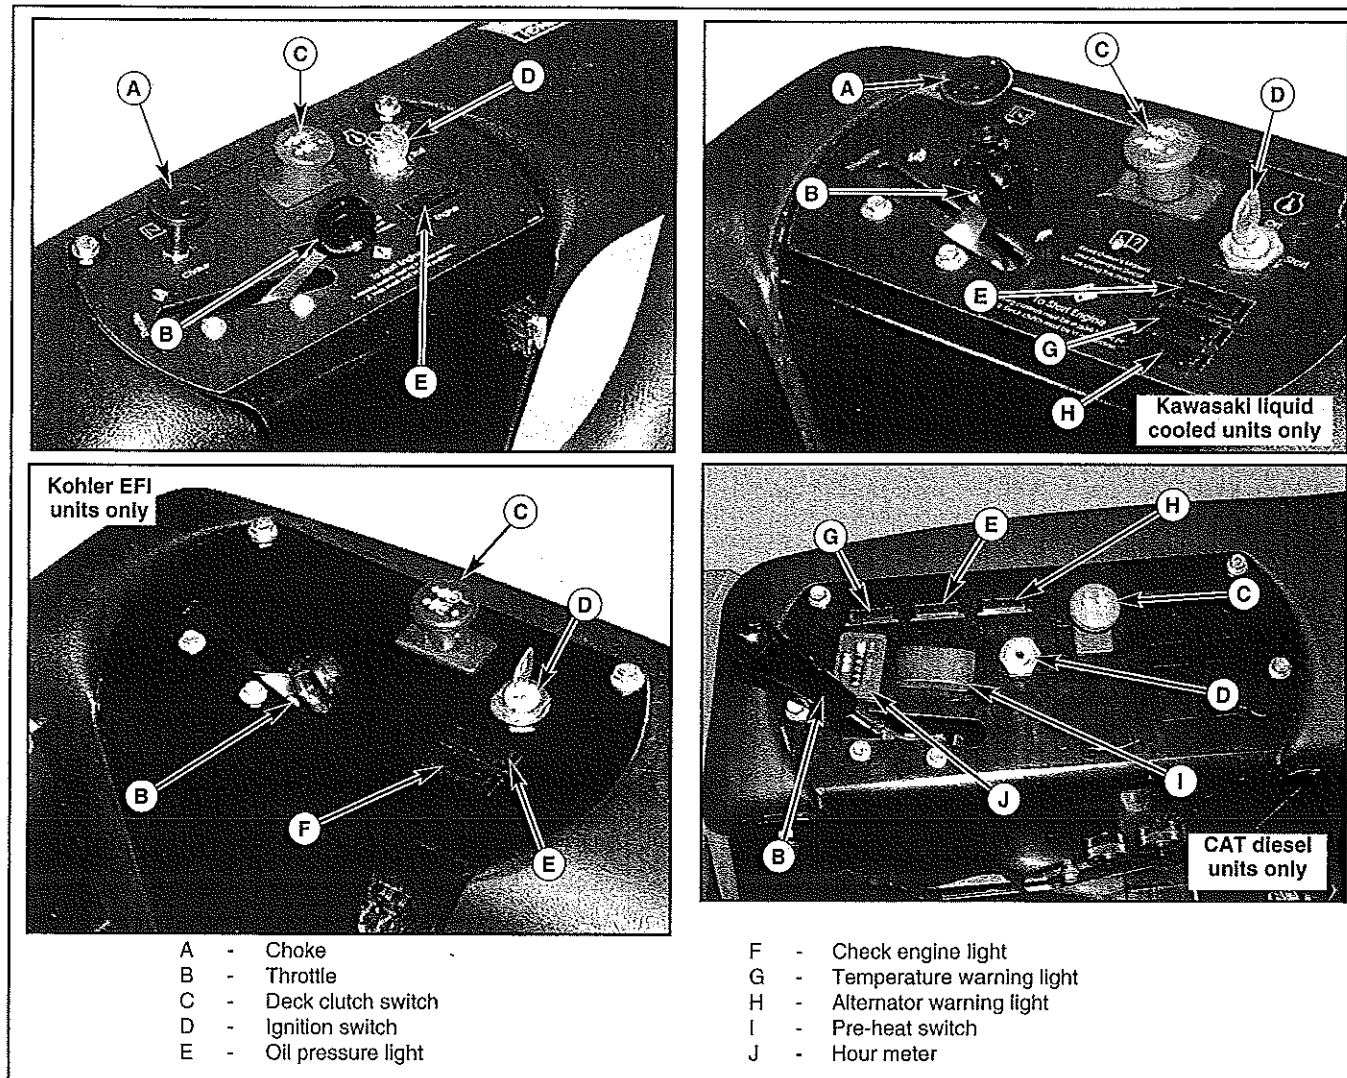

Figure 3-1
- A. Choke control (Fig. 3-1)** — a cable is linked to manually operate the engine choke. When the lever is in the down position, the choke is in the off (run) position. When the lever is pulled up, the choke is in the on (start) position. **Do not** operate the machine in the on (start) position. **NOTE:** The choke control is not used on Models 927053 & 927061.
- B. Throttle control (Fig. 3-1)** — a cable is linked to engine throttle for controlling engine speed. Move lever forward to increase engine rpm, move lever rearward to decrease engine rpm.
- C. Deck clutch switch (Fig. 3-1)** — this switch engages the deck. Pull the switch up to engage and push switch down to disengage the clutch.
- D. Ignition switch (Fig. 3-1)** — a three position switch: off, run, and start. With key inserted, rotate it clockwise to START position; release key when engine starts, and switch will automatically return to the RUN position.
- E. Oil pressure light and alarm (Fig. 3-1)** — this light comes on
- F. Check engine light (Fig. 3-1)** — refer to Kohler engine owner's manual for details.
- G. Temperature warning light and alarm (Fig. 3-1)** — this light will come on when the engine coolant temperature reaches an unsafe level during operation. If light comes on, shut down the machine as soon as possible. Never risk continued operation when light remains on; high temperatures can severely damage the engine. Never risk continued operation when light remains on; high temperatures can severely damage the engine.
- H. Alternator warning light (Fig. 3-1)** — this light comes on when the ignition switch is placed in the RUN position and stays lit until the engine is running and the battery is being charged. If light comes on during operation, shut engine off immediately, locate and correct the problem.
- I. Pre-heat switch (Fig. 3-1)** — this is an intermittent rocker switch position. Turn ignition key to run, depress and hold pre-heat switch six (6) seconds to start engine.